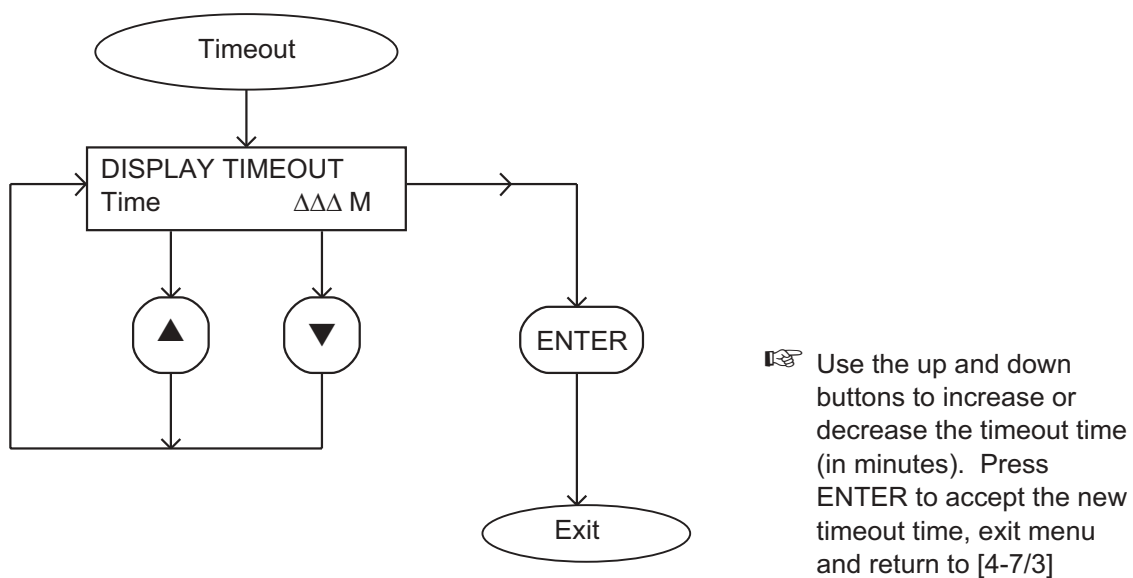

Figure 4-12 - Timeout menu
- When you change a new setpoint value in the Setpoint menu (Figure 4-10), or when you change the timeout time (Figure 4-12), if you press CANCEL before you enter the amended value, the value changes to its default value.
You can vary the timeout time between 1 and 200 minutes: refer to Figure 4-12. If you set the timeout time to 0 minutes, this switches off the timeout facility, and the current menu will remain displayed continuously, until you select another menu.